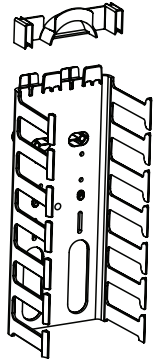

FIGURE 5
1. Slide the Slack Loop Storage Organizer over the fingers of the Vertical Slotted Duct (Figure 5).